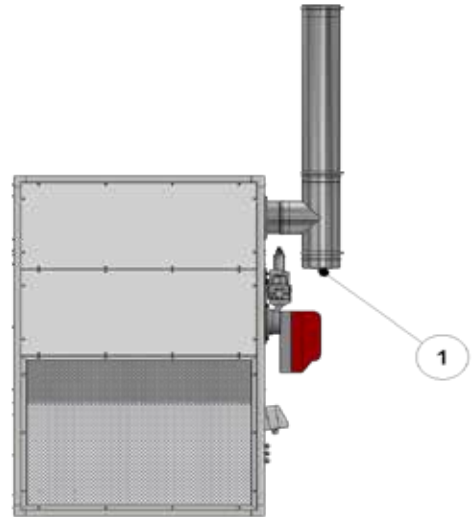

Figure 9 Flue gas discharge
- To avoid reflux of condensation from the flue to the air heater, there must be a condensation discharge at the lowest point of the flue. See Figure 9
A condensate drain with trap should be fitted to the flue tee piece supplied with the heater as shown in figure 9 fixing 1 this is